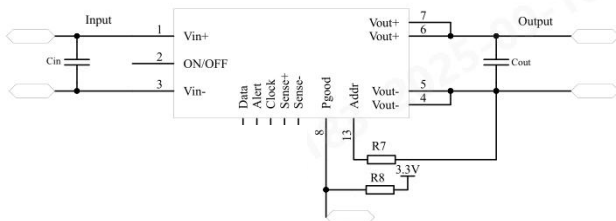

Fig. 2
- ① All output characteristics are tested in accordance with Design Reference Fig. 2;